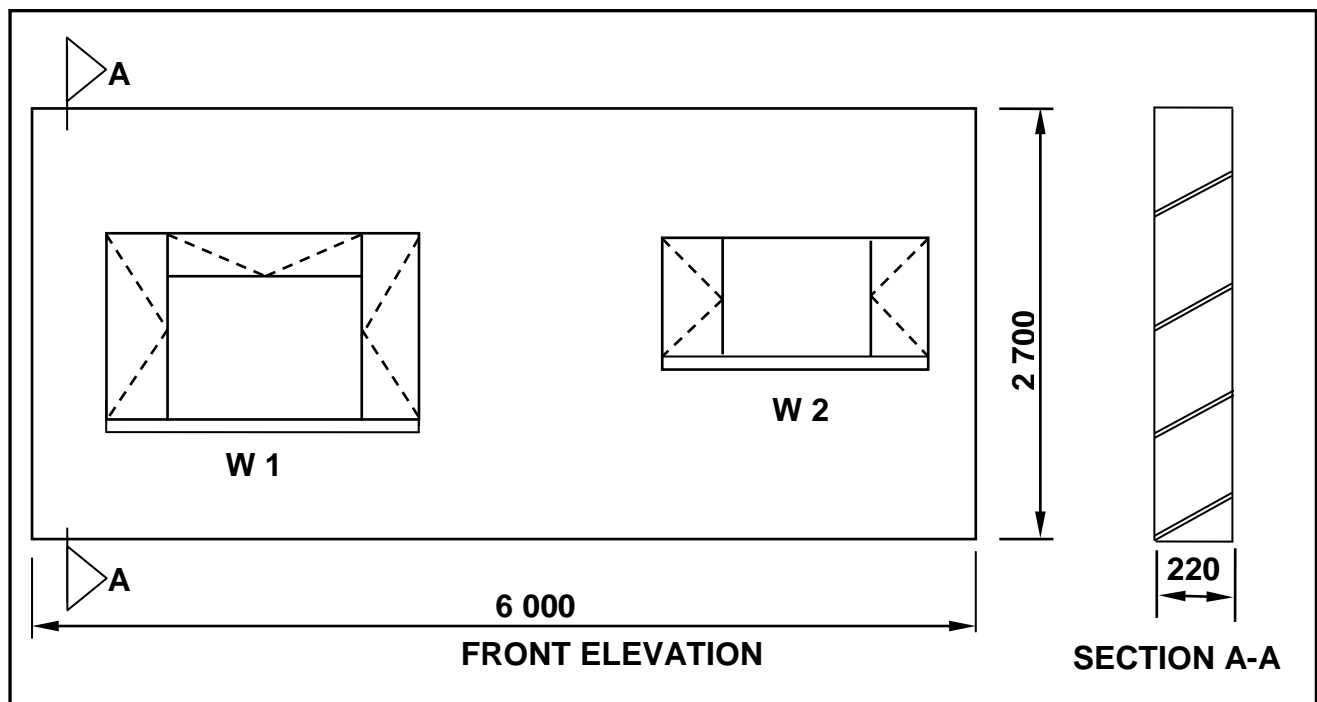

FIGURE 4.3
4.3 FIGURE 4.3 shows the front elevation and vertical section of a part of a wall (superstructure only).